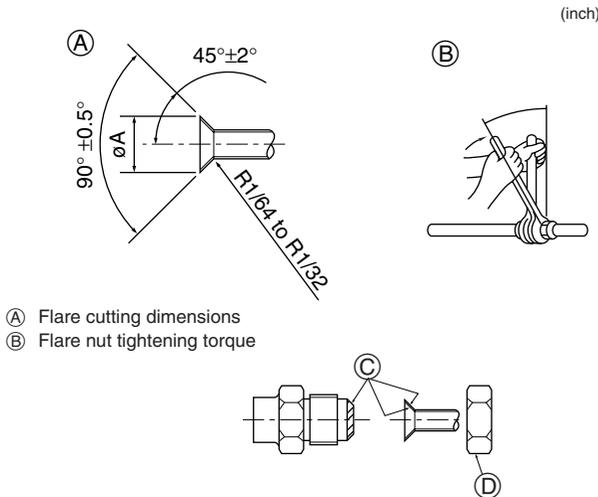

Fig. 4-1
(A) (Fig. 4-1)
(B) (Fig. 4-1)
### 4.2. Connecting pipes (Fig. 4-1)